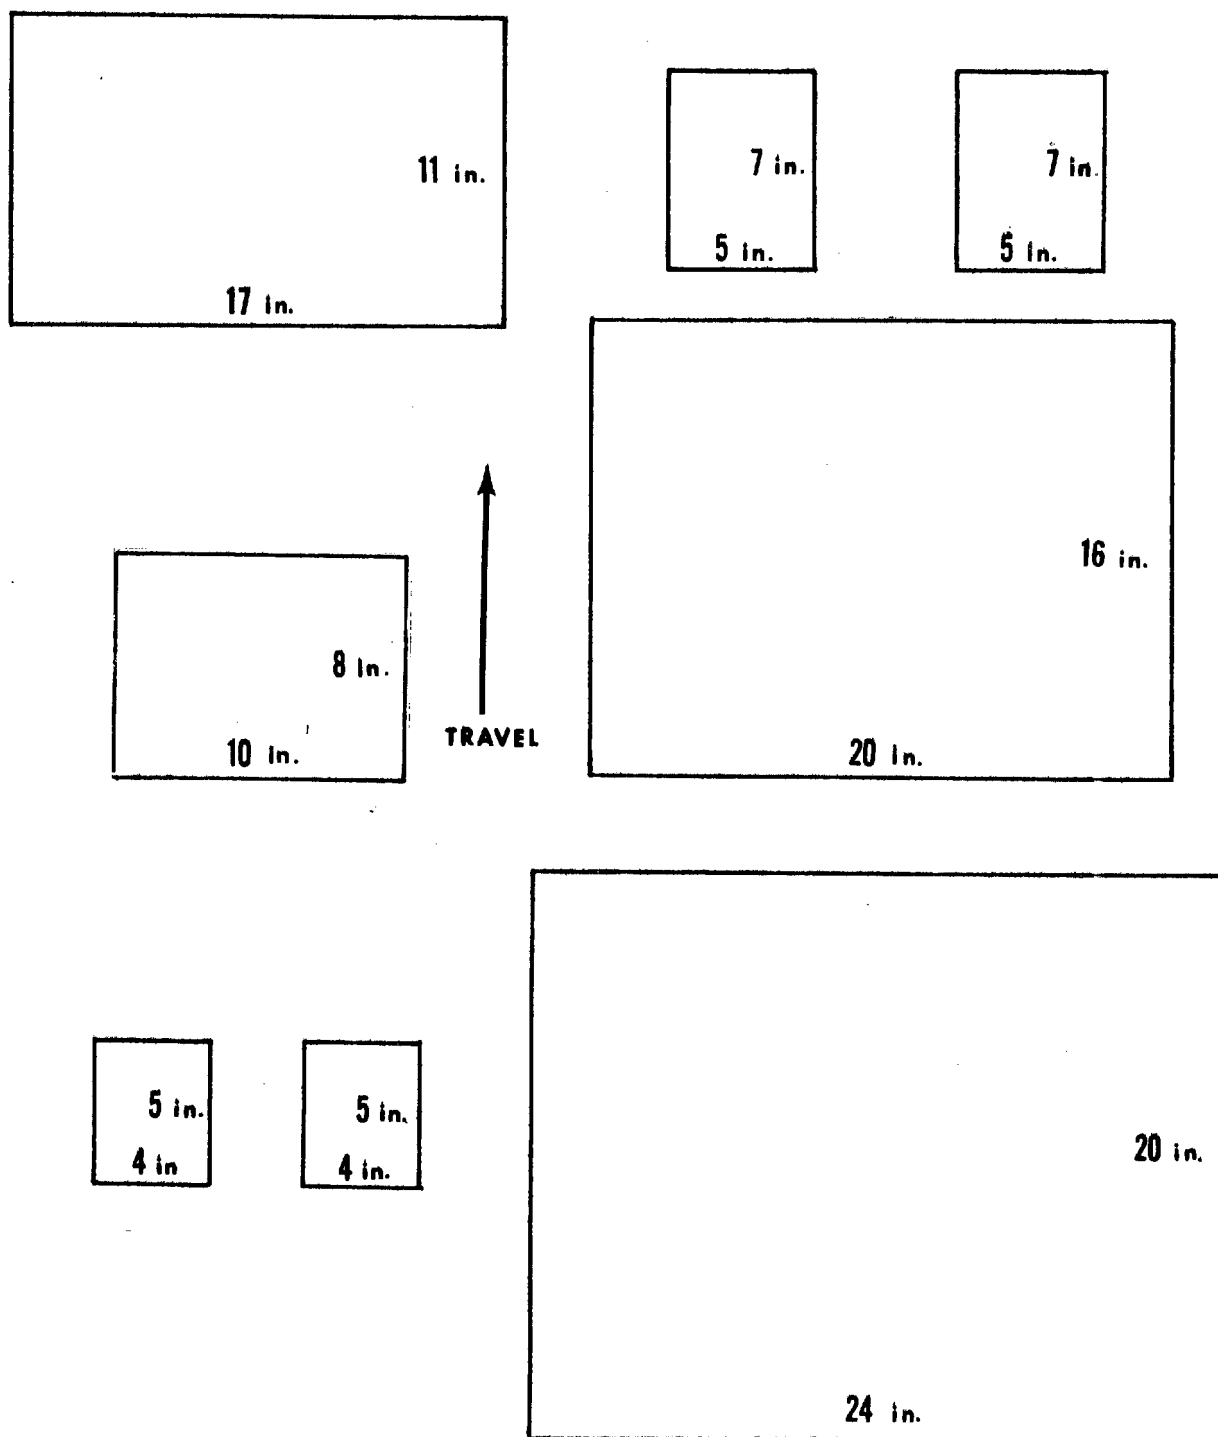

Figure 15. Proper Arrangement for Feeding Various Sizes of Paper
- f. Cut a piece of sheet film to width of leading edge of print for leader tab. Figure 15 shows proper arrangement of various size prints for feeding procedure. The film must be at least 7 mils thick and 10 inches long. (Once cut the film tab can be used over and over.)